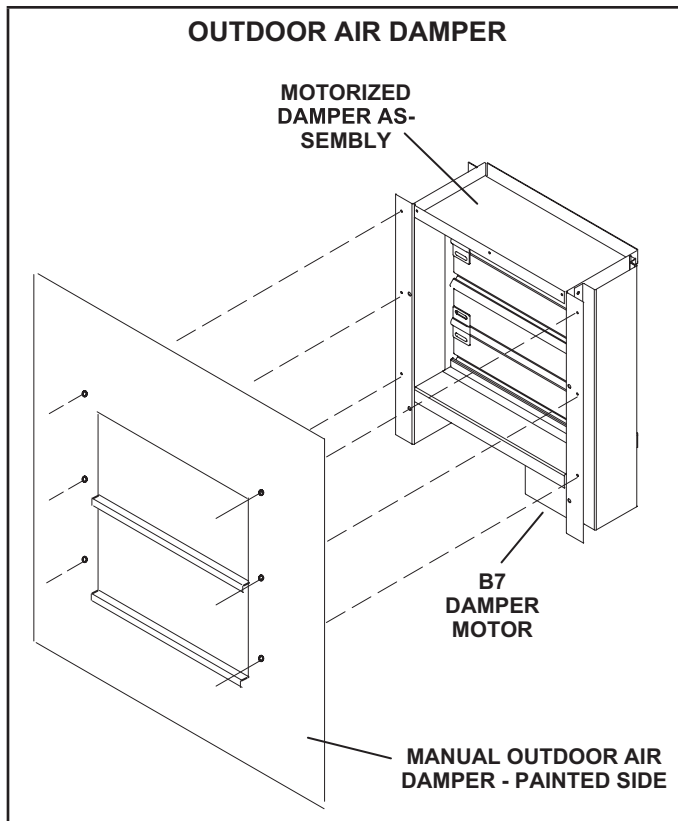

FIGURE 20
C1DAMP11A-2 is available for all units. Both sets include the outdoor air hood. A motorized kit (K1DAMP21A-1) can be ordered separately for all unit sizes. The dampers may be manually or motor (M) operated to allow up to 25 percent outside air into the system at all times (FIGURE 20). Washable filter supplied with the outdoor air dampers can be cleaned with water and a mild detergent. It should be sprayed with Filter Handicoater when dry prior to reinstallation. Filter Handicoater is R.P. Products coating no. 418 and is available as Part No. P-8-5069.